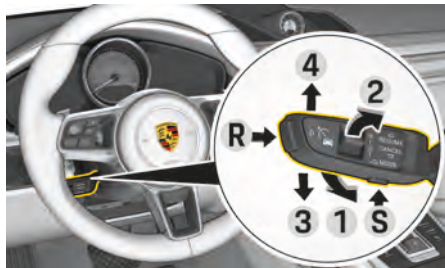

Fig. 158: Control lever for driver assistance systems
- ▶ Press the control lever forward (Fig. 158) **1**. Porsche Hill Control (PHC) is ready.
- ▶ Press the control lever forward (Fig. 158) **1** (increase speed) or pull it back (Fig. 158) **2** (reduce speed).